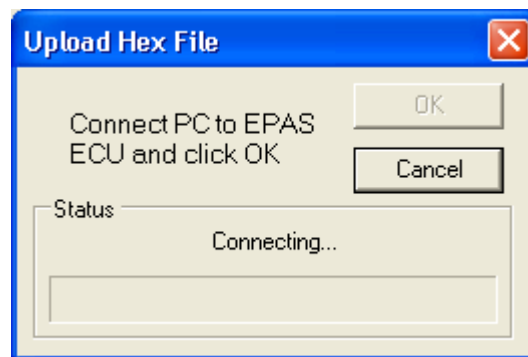

Figure 5 - Upload Hex File Dialog (Connecting)
7. The Upload Hex File dialog shows that EPAS Desktop is attempting to communicate with the EPAS ECU (Figure 5).